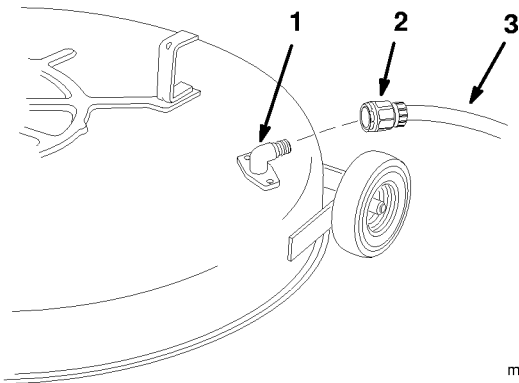

Figure 22
2. Attach hose coupling to the end of the mower washout fitting, turn water on high (Fig. 22).